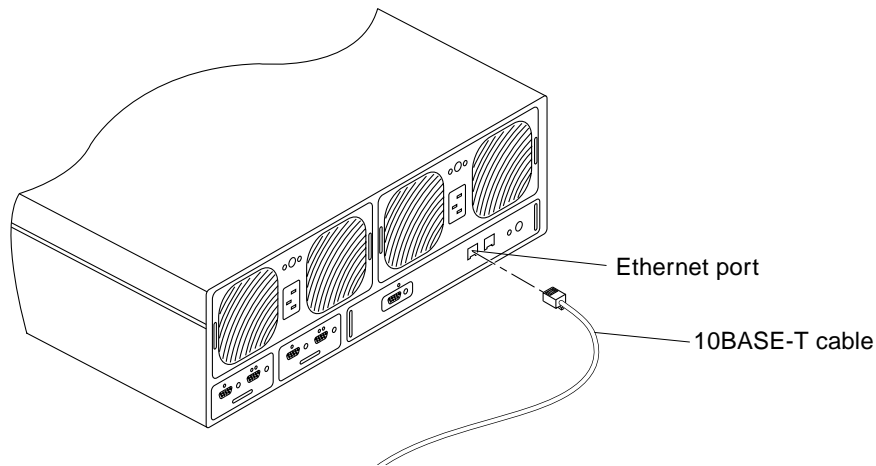

FIGURE 2-12 Connecting the 10BASE-T Cable
5. Attach one end of the 10BASE-T cable to the Ethernet port on the controller board of the master unit (FIGURE 2-12).